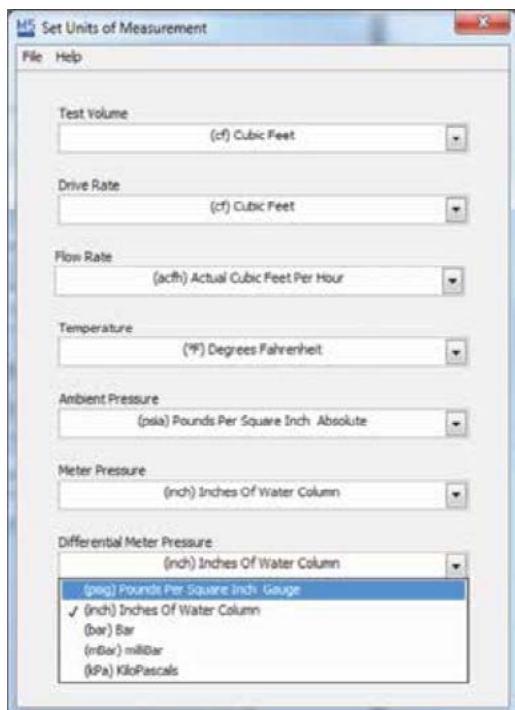

Figure 18: Drop Down Selection
6. In this example the units of measure for differential meter pressure will be changed. Follow the same procedure for any of the listed drop-down menus. Select the down arrow to reveal available options, as shown in Figure 18. Click the desired unit.